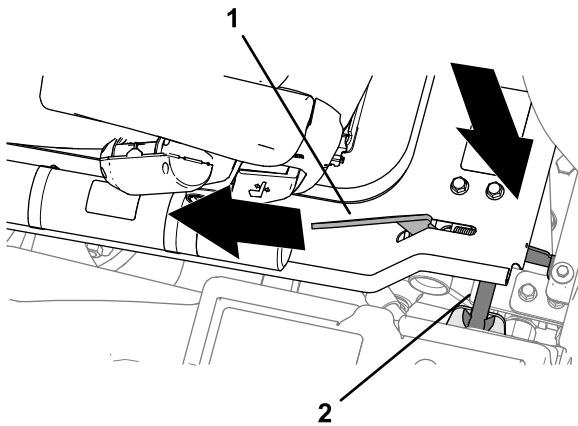

Figure 13
2. As the platform nears the fully lowered position, move the platform-latch handle (Figure 13) toward the front of the machine.